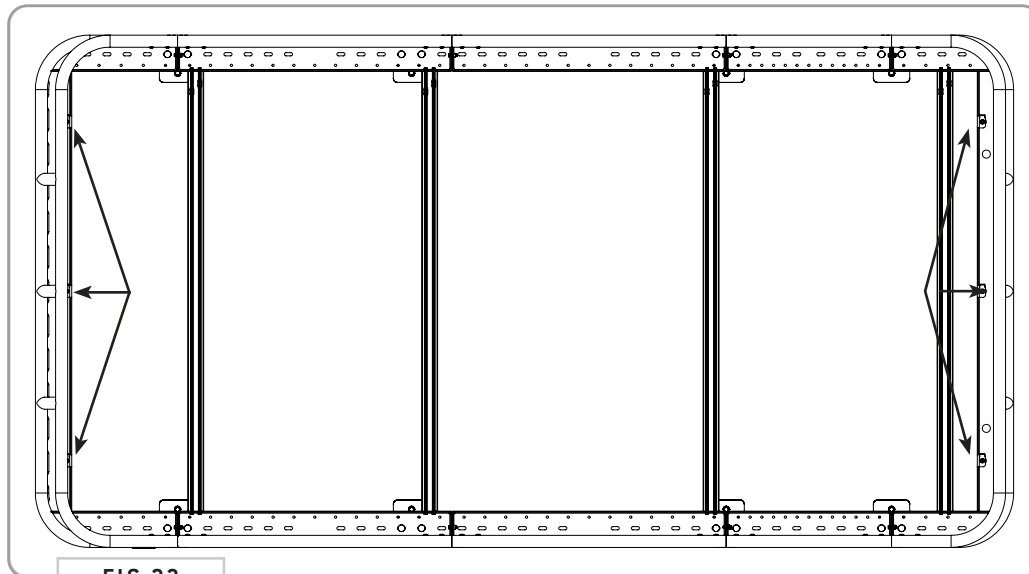

FIG 23
**10.1 Attach Clip Nuts to Baskets:** Install the **Clip Nuts** to the **Front and Rear Basket** locations as shown in FIG 23.